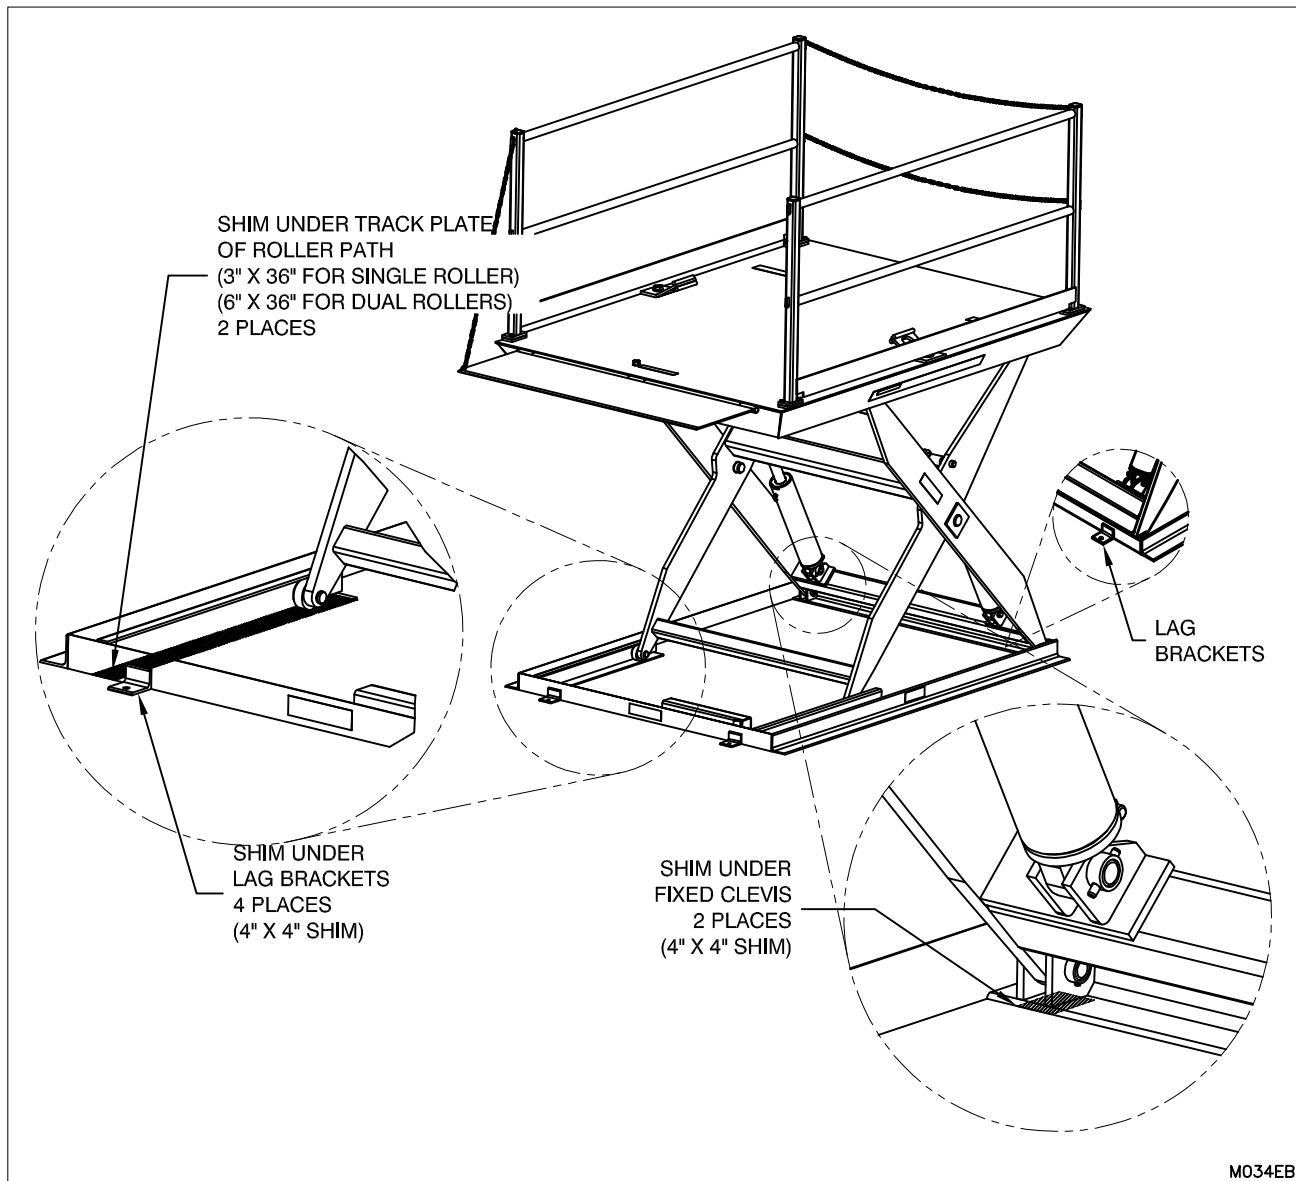

Figure 6: Shim Beneath the Fixed End Clevises and Full Roller Travel
14. If required, level the unit on both sides by shimming under the four lag locations, the full length and width of the roller travel and the lower fixed end clevises. (See "Figure 6: Shim Beneath the Fixed End Clevises and Full Roller Travel" on page 13)
- a) Shim Information ("Figure 6: Shim Beneath the Fixed End Clevises and Full Roller Travel" on page 13):